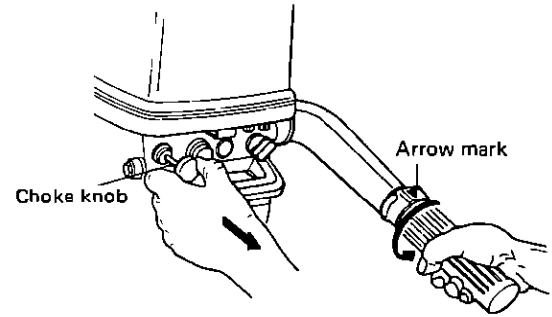

Fig. 10 Positioning the throttle grip to the start position.
**Note:** Do not pull out the choke when restarting a warm engine. (Fig. 10)